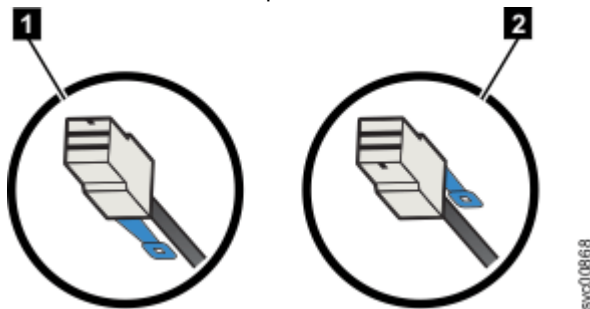

Figure 112. SAS cable connector orientation
- For Storwize V5000 Gen2 control enclosures (and 2077/2078-12F or 2077/2078-24F 2U expansion enclosures), the blue pull tab must be below the cable (**1** in Figure 112 on page 106).
- For 2077-92F 5U expansion enclosures, the blue pull tab must be above the connector (**2** in Figure 112 on page 106).